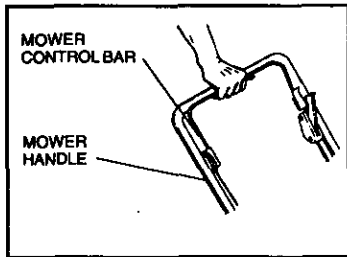

Figure 3
A. Depress mower control bar (see Figure 3) against mower handle and hold it in this position.
- a) **RECOIL STARTERS:** Grasp starter handle (figure 3) and pull rope out slowly until you feel drag. Let rope rewind slowly. Pull rope with rapid, full arm stroke. Return rope slowly to original position. **NOTE:** If engine fails to start after three pulls, repeat steps 2-3 above.